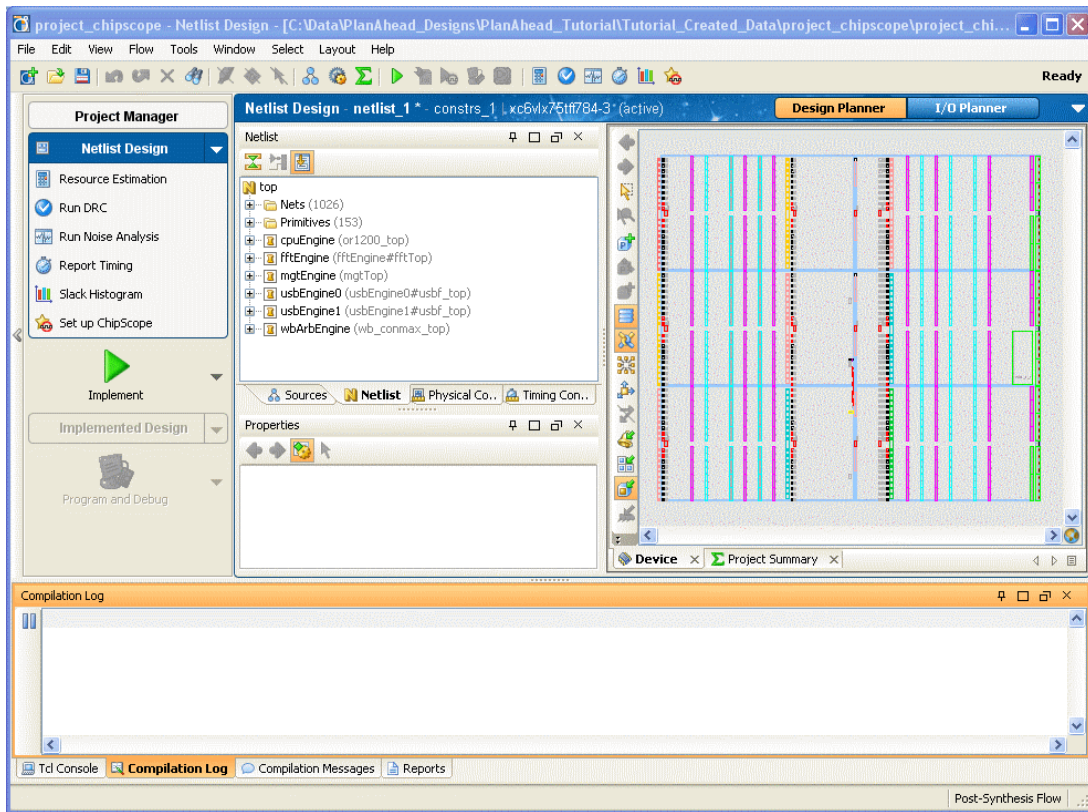

Figure 2: The Project in the Netlist Design Environment
- 1-2-6.** In the Flow Navigator on the left side of the PlanAhead environment, select **Netlist Design**. The Netlist Design is now open and ready to insert debug logic. See the following Figure 2.